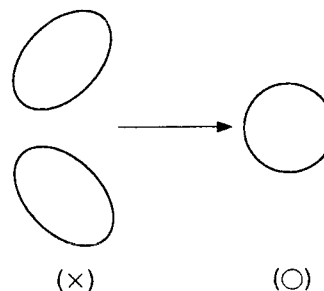

Fig. 7
- 15) Adjust the four-pole magnet so that the DOT shape is accurately round. (Fig. 7)